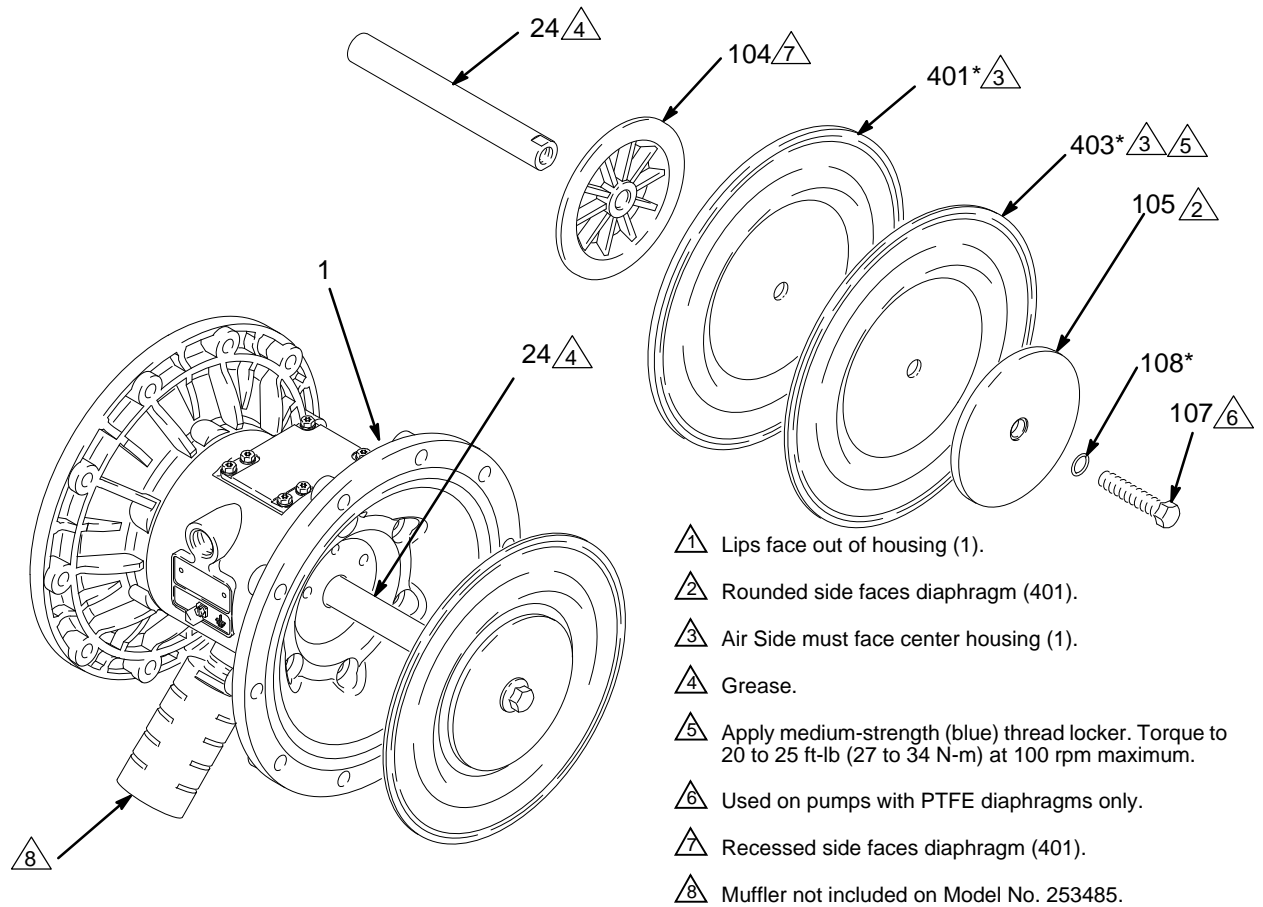
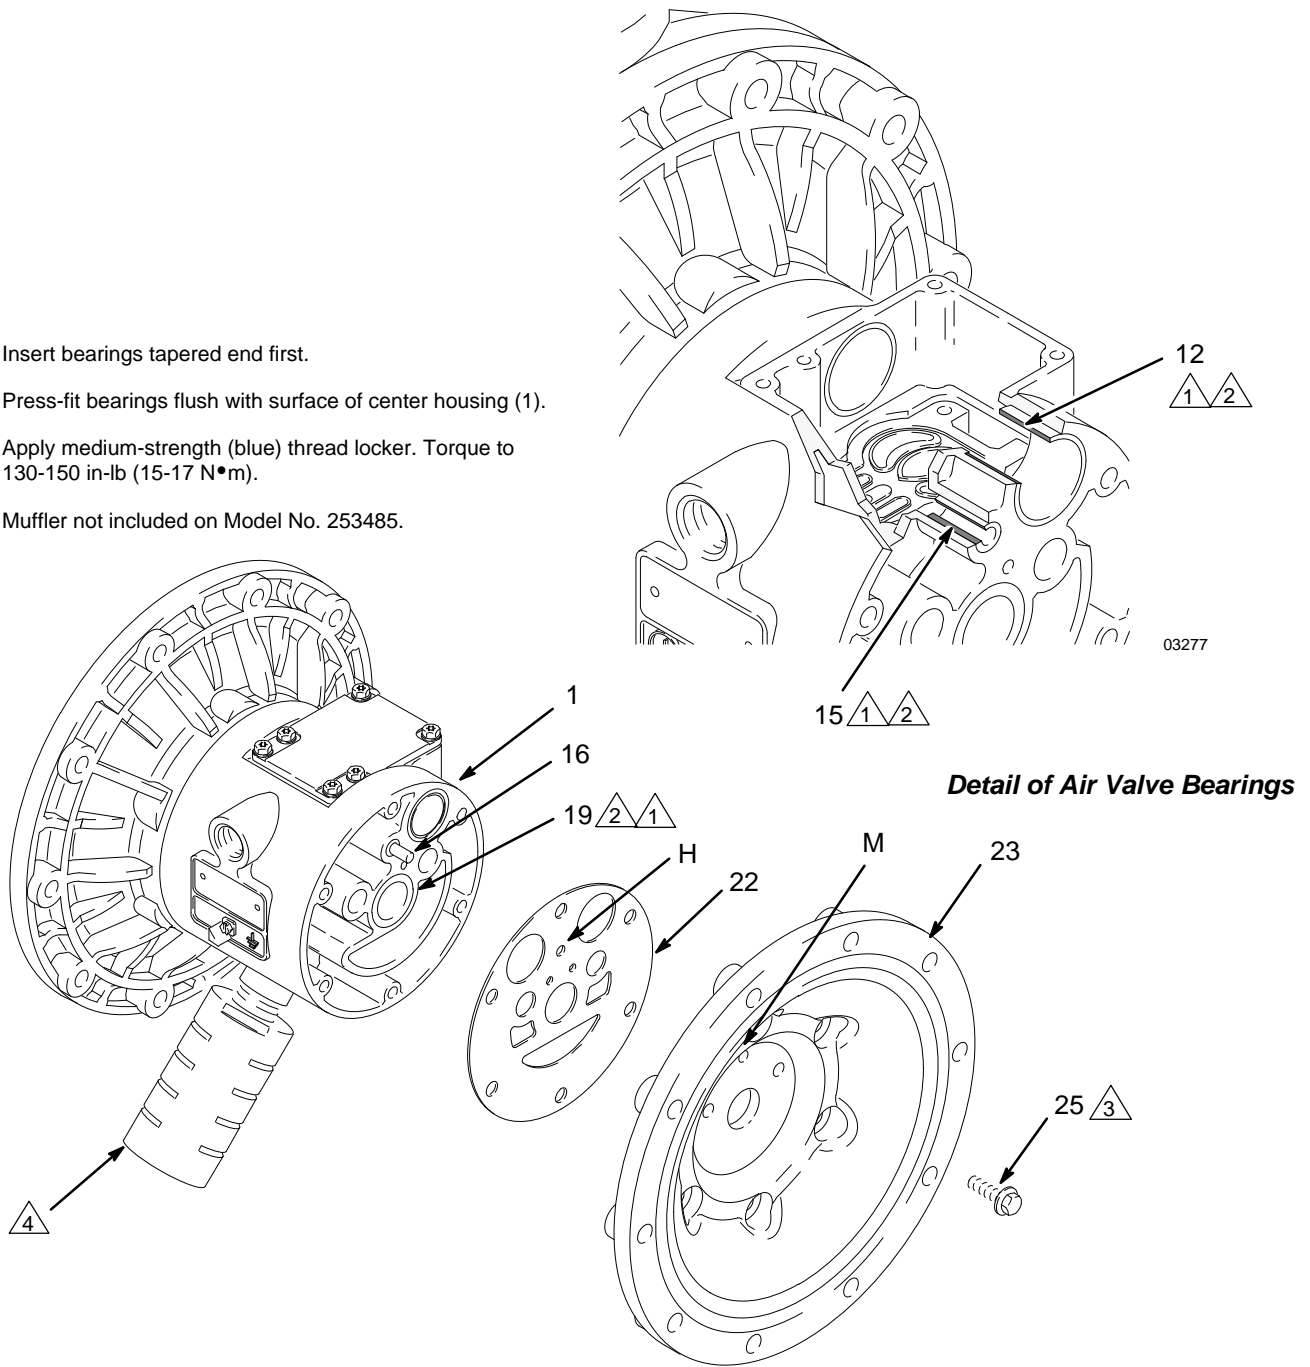

FIG. 12
FIG. 13
4. Loosen but do not remove the diaphragm shaft bolts (107), using a 15 mm socket wrench (1 in. on stainless steel models) on both bolts. *NOTE: This step does not apply to pumps with overmolded diaphragms.*
5. Unscrew one bolt from the diaphragm shaft (24) and remove the o-ring (108), fluid side diaphragm plate (105), PTFE diaphragm (403, *used on PTFE models only*), diaphragm (401), and air side diaphragm plate (104). See FIG. 12.
1. Install the shaft u-cup packings (402*) so the lips face **out** of the housing (1). Lubricate the packings. See FIG. 12.
2. Install the diaphragm assembly on one end of the shaft (24) as follows. *For pumps with overmolded diaphragms, go directly to step g.*
- NOTE:** If you are removing only the diaphragm shaft bearing (19), skip step 4.
5. Using a 10 mm socket wrench, remove the screws (25) holding the air covers (23) to the center housing (1). See FIG. 13.
6. Remove the air cover gaskets (22). Always replace the gaskets with new ones.
7. Use a bearing puller to remove the diaphragm shaft bearings (19), air valve bearings (12) or pilot pin bearings (15). Do not remove undamaged bearings.
8. If you removed the diaphragm shaft bearings (19), reach into the center housing (1) with an o-ring pick
and hook the u-cup packings (402), then pull them out of the housing. Inspect the packings. See FIG. 12.
1. If removed, install the shaft u-cup packings (402*) so the lips face **out** of the housing (1).
2. The bearings (12, 15, and 19) are tapered and can only be installed one way. Insert the bearings into the center housing (1), **tapered end first**. Using a press or a block and rubber mallet, press-fit the bearing so it is flush with the surface of the center housing.
4. Align the new air cover gasket (22) so the pilot pin (16) protruding from the center housing (1) fits through the proper hole (H) in the gasket.
5. Align the air cover (23) so the pilot pin (16) fits in the middle hole (M) of the three small holes near the center of the cover. Apply medium-strength (blue) thread locker to the threads of screws (25), and install the screws handtight. See FIG. 13. Using a 10 mm socket wrench, torque the screws oppositely and evenly to 130-150 in-lb (15-17 N•m).